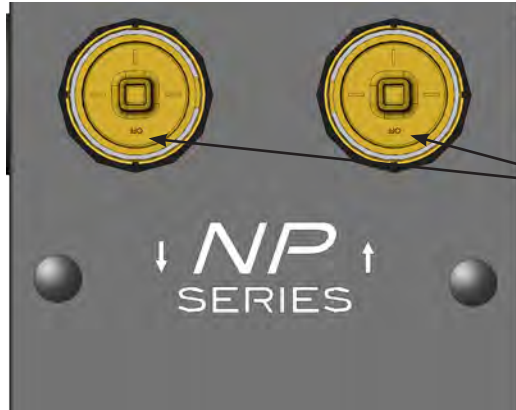

Figure 5: Valve positions for flushing with the flush cart
1. Rotate supply and return ground loop valves to bypass the tank. OFF should be in the 6 o'clock position on both upper valves (Figure 5).
NOTE: Fluid should not enter the NP Series tank during flushing. If it does, immediately stop the flush cart pump and check to be sure the valves are in the correct orientation as shown in Figure 5.